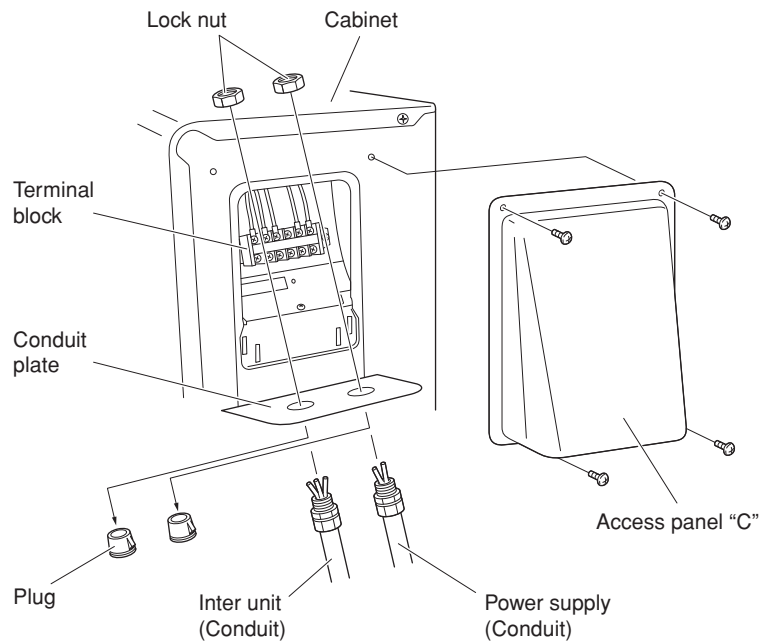

Fig. 14
- (1) Remove access panel "C". (Fig. 14)
- (2) Connect the inter-unit and power supply line according to the drawing on the panel side.
- (3) Be sure to size each wire allowing approx. 4" (10 cm) longer than the required length for wiring. Store excess wiring inside the cabinet.
- (4) When connections are completed, check that all connections are correct as shown in the wiring system diagram on panel side.
- (5) Be sure to ground the unit according to your local codes.